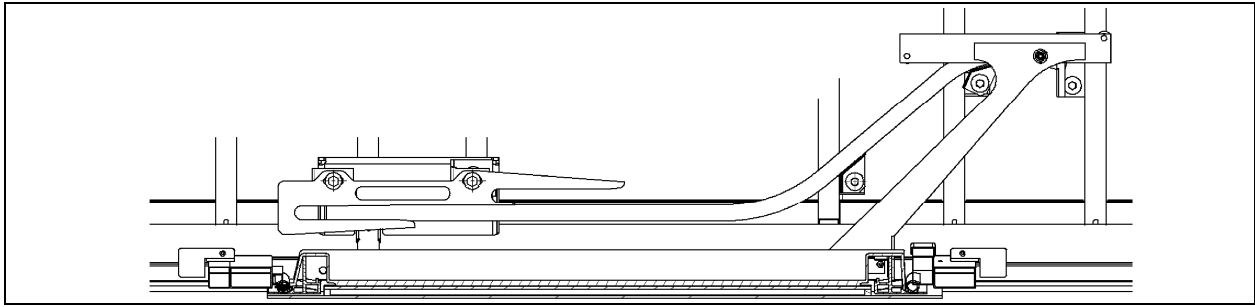

FIGURE 77: WCL UPPER ARM AND RAIL
2. Slide the top rail into the upper arm then bolt the rail to the structure. Do not fully tighten (Refer to Figure 77).